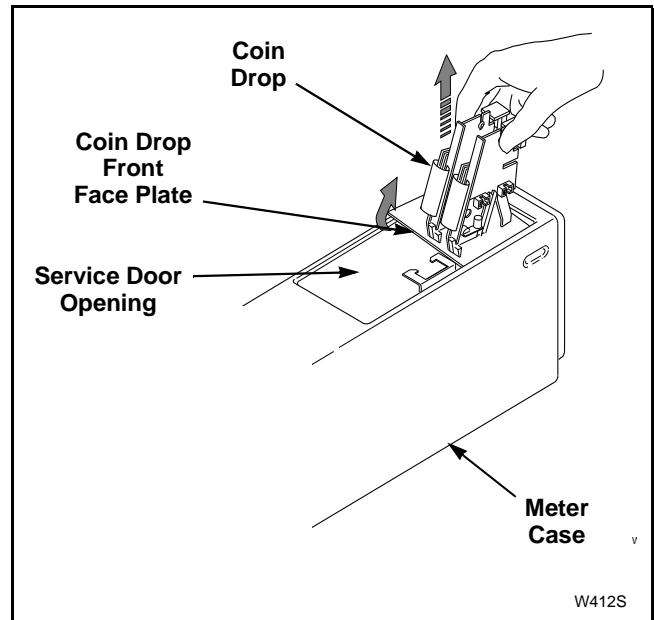

Figure 36
- (6) Lift back end of coin drop and pull straight back until bottom edge of drop's front face plate falls behind the coin drawer housing.
- (7) Carefully lift complete coin drop straight up and out of meter case.
**NOTE:** When lifting drop out of meter case, tip drop slightly so front face plate clears service door opening. Refer to *Figure 36*.
- (1) Reverse removal procedures for installation.